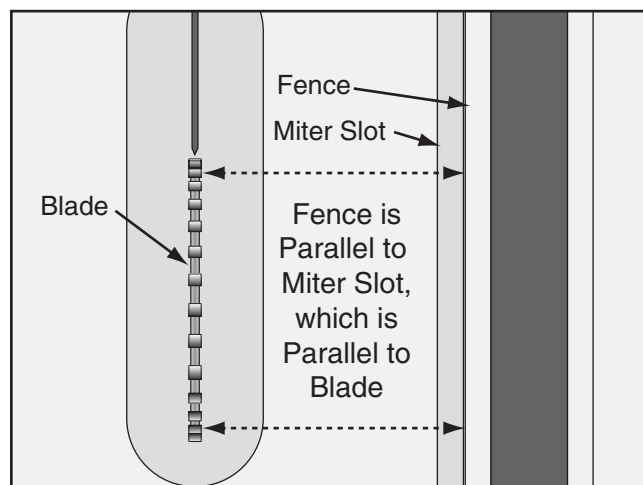

Figure 119. Checking fence parallelism with blade.
2. Slide the fence up against the right hand edge of the miter slot, lock it in place, then raise the blade above the insert. Using a fine ruler, examine how the fence lines up with the miter slot and the blade, as shown in **Figure 119**.
—If the fence *is* parallel with the miter slot/blade, as shown in **Figure 119**, no further adjustments need to be made.